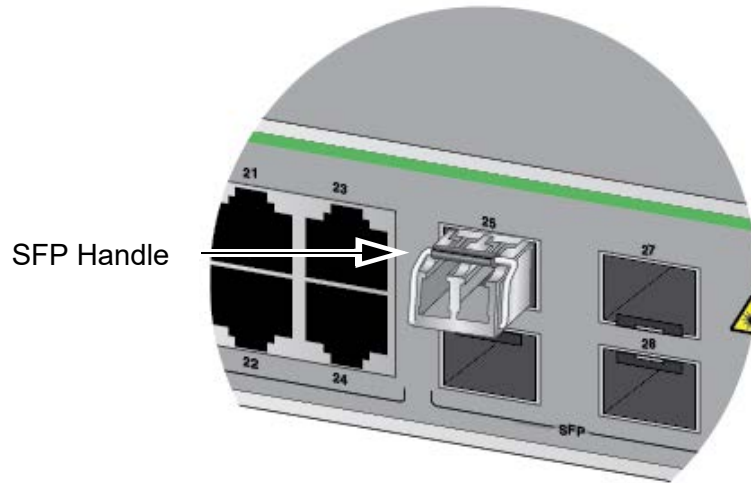

Figure 52. Positioning the SFP Handle in the Upright Position
5. Verify the position of the handle on the SFP transceiver. If the transceiver is in a top slot, the handle should be in the upright position, as shown in Figure 52. If the transceiver is in a bottom slot, the handle should be in the down position.